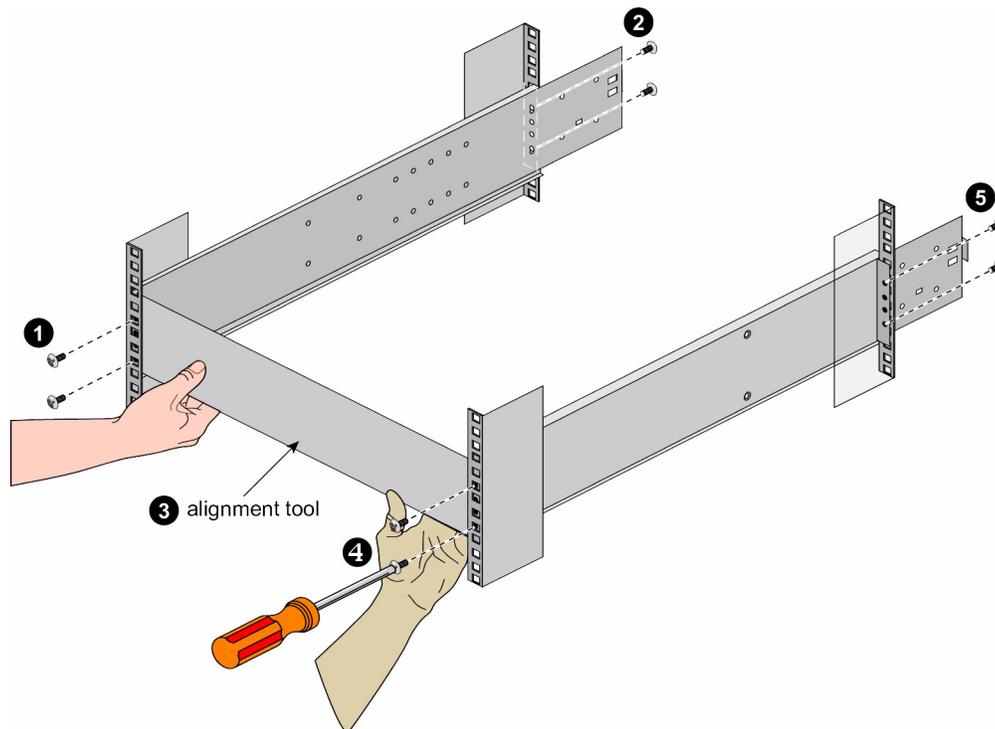

Figure 1-13 Fasten the Rails to the Rack
- d. Use the long phillips screwdriver to fasten the rear screws of the rail to the rack (2 & 5 in Figure 1-13). Keep these screws loose for later adjustment.
3. Attach the rail to the rack at the front using the screws provided, keeping them loose for later adjustment (1 & 4 in Figure 1-13).